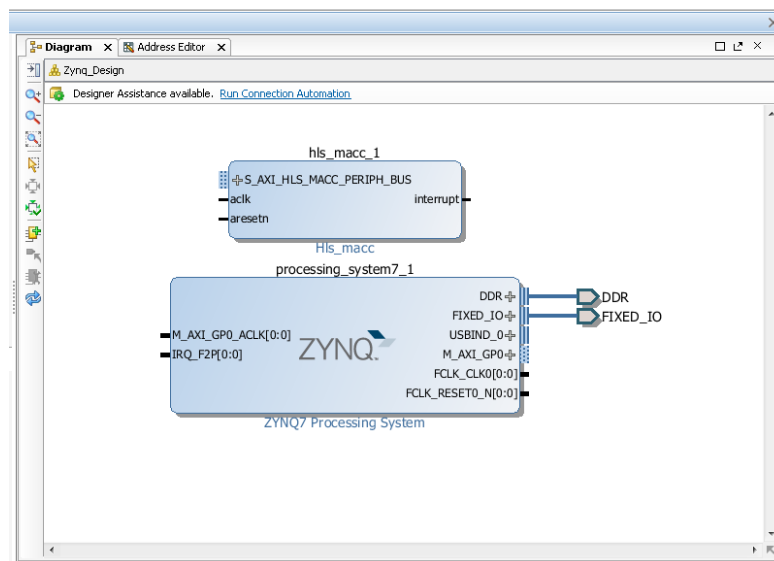

Figure 232: processor and HLS IP
- a. Type "hls" in the Search text entry box and press **Enter** to add it to design (Figure 232).